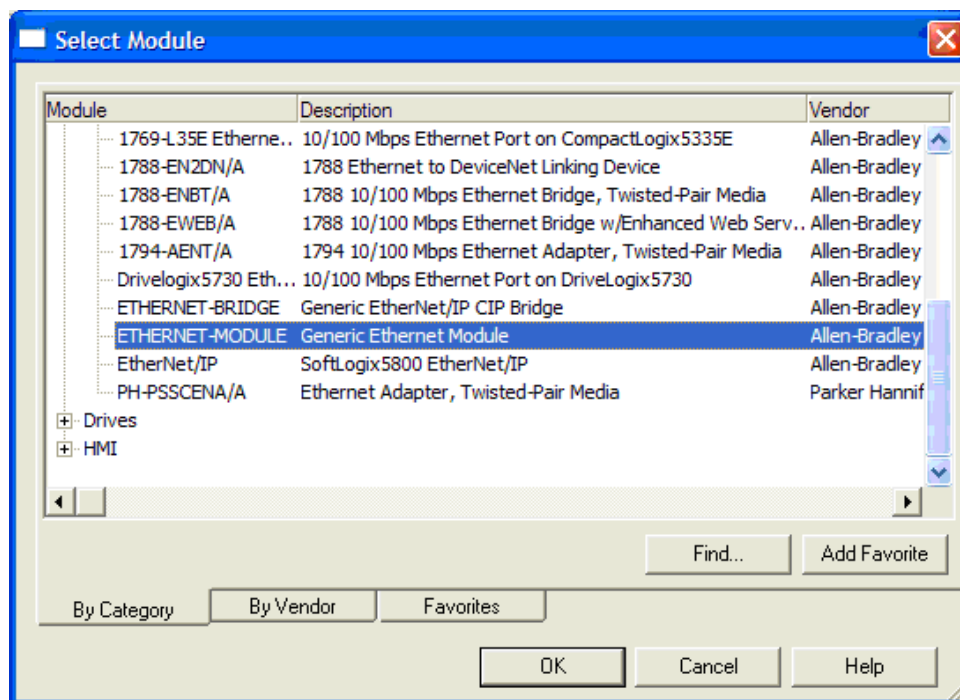

Figure 19: Select Module Dialog Box
- The “Select Module” dialog box will open as illustrated in Figure 19.